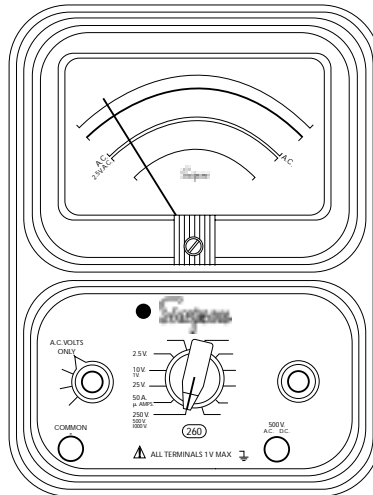

Figure 4-7. Jacks and Switch Positions for Measuring AC Voltage, 0-500V Range
- Set the function switch at AC Volts Only position. (Figure 4-7).